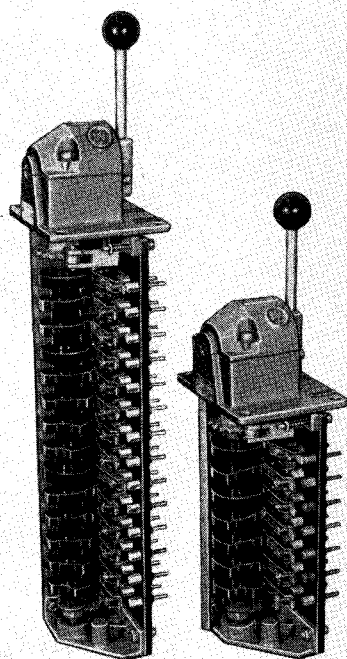

FIG. 1. Type DM Master Switch, 14-Circuit and 7-Circuit
**THE WESTINGHOUSE TYPE DM MASTER SWITCH** is designed for desk mounting and is intended for use with all types of mill, crane and hoist magnetic controllers. (See Fig. 1).